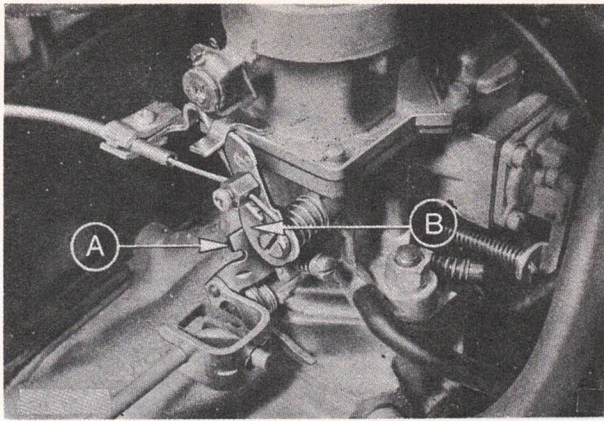

Fig. 17. Manual choke, fast idle adjustment.
7. Stop engine and adjust as necessary by bending tag down in Fig. 17.